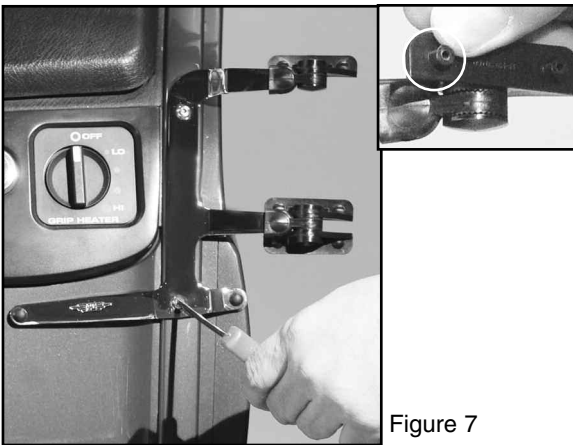

Figure 7
2. Install Right Bracket with 3/8" Screws. (1/8" Hex Key) **Figure 7**
3. Position Swivel Ratchet so studs face toward rider. **Figure 7**